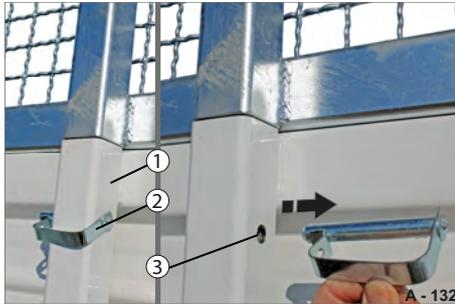
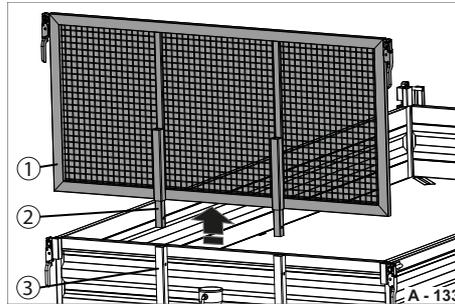
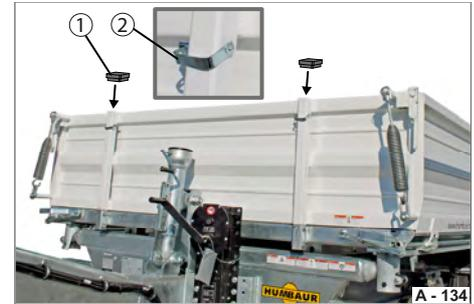

Fig. 138 Unlocking
Fig. 139 Disassembling steel grate attachment
Fig. 140 Base platform gate without front platform gate attachment
- ▶ Pull on the spring clamp of the spring cotted stud (Fig. 138/2) and pull the spring cotted stud out of the bore hole (Fig. 138/3).
- ▶ Pull the steel grate attachment (Fig. 139/1) out of the posts of the base platform gate (Fig. 139/3).
- ▶ Insert the caps (Fig. 140/1) into the side posts (Fig. 139/3) of the base platform gate.
- ▶ Insert the spring cotted stud (Fig. 140/2) into the bore holes of the base platform gate (Fig. 138/3).